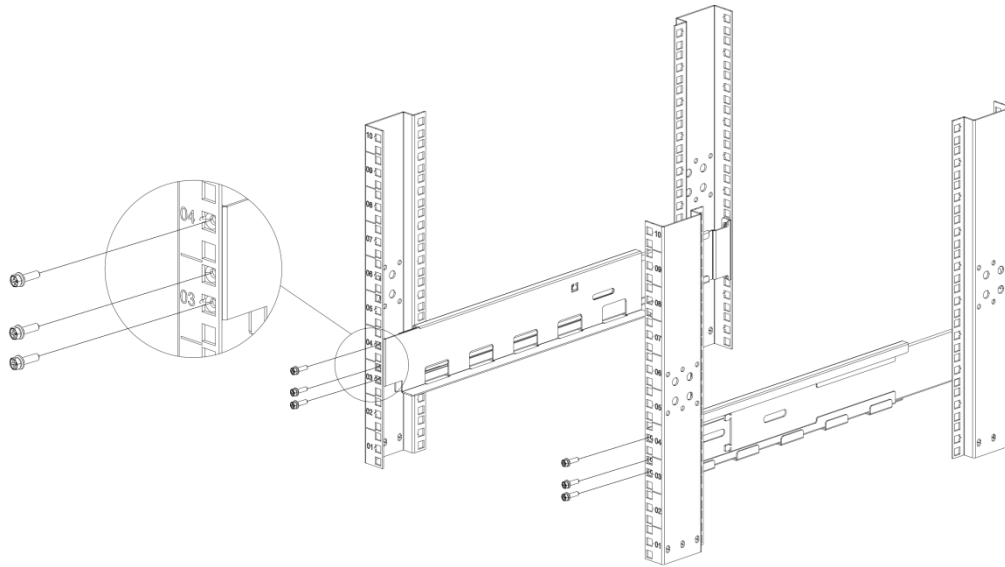

Figure 38: Install the Front Side of Rails
31. Install the front side of the rail kit with 3x Phillips Pan Head M5 screws (see Figure 38) on each rail. Do not tighten the screws.